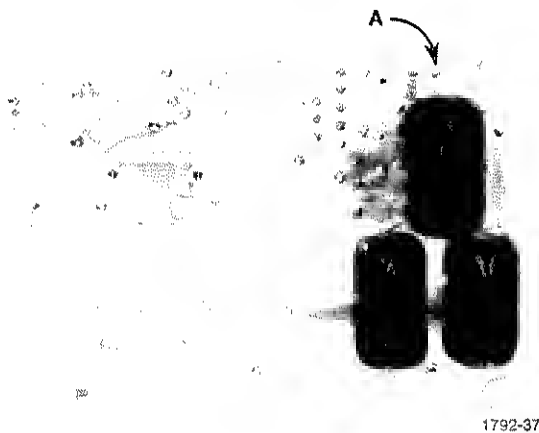

Fig. 5-3. Rear view of the HV board.
2. Discharge the possible 2 kV potential by placing a short between point A, Fig. 5-3 and ground. This point is accessible by removing the Battery Pack and turning the 1503 upside down.